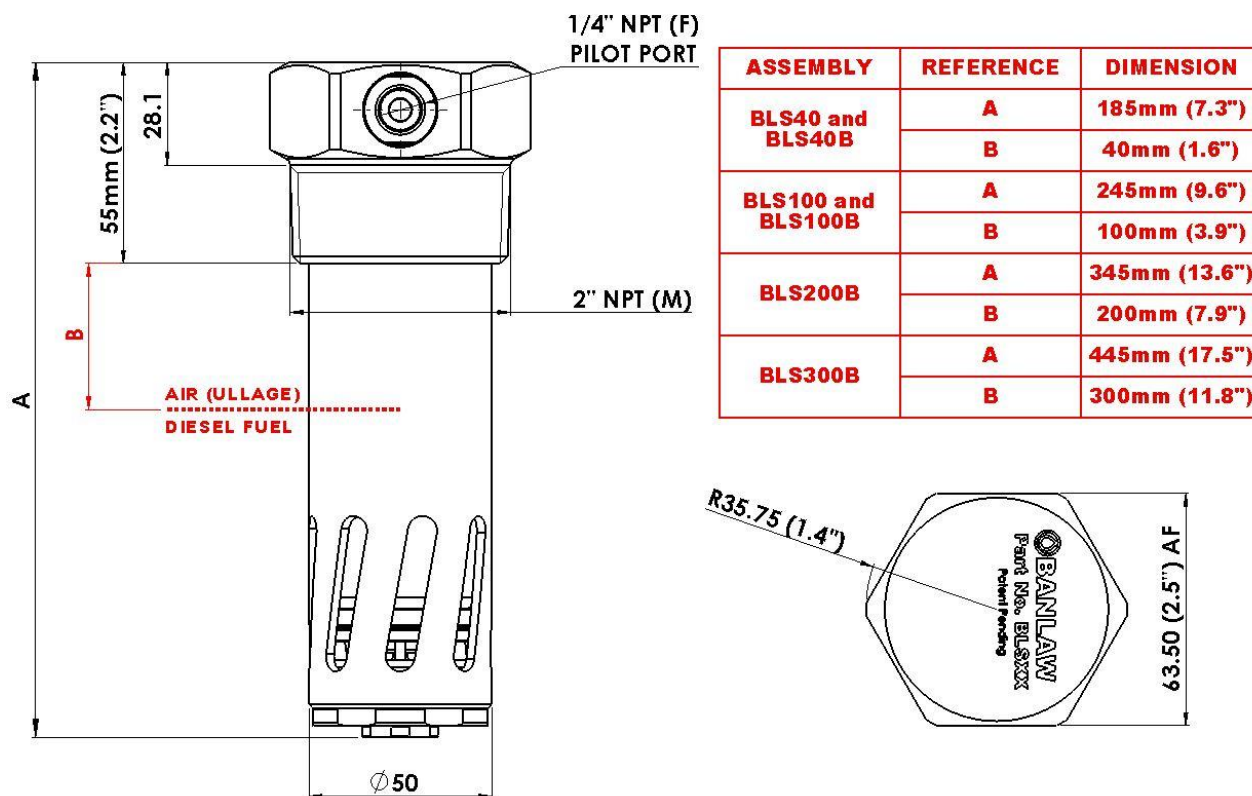

Figure 3 - BLS Model Schematic (and Tank Ullages)
¹ Nominal Tank Ullage – measured from the bottom (base) of the Level Sensor 2” NPT (M) mounting thread – refer Figure 3 and Figure 13. **A tolerance of $\pm 5\text{mm}$ (± 0.2) applies to dimension “B”.**
The Level Sensor length – specifically the dimension “B” in Figure 3 – must be **pre-selected** such that **the Level Sensor shut-off (closure) level within the tank is below the closure level of any tank venting device**, e.g. a Banlaw BFV225A Vent (as per Figure 6), or any other similar style vent which closes the flow of exhaust air out of the tank at a certain fuel level. This difference in levels (i.e. “buffer”) is important to prevent such hazards as pressurisation of the tank, over-pressurisation of the tank and possible tank damage, or the potential spillage of fuel from the vent exhaust. Refer to section 5.1.1 for further information.